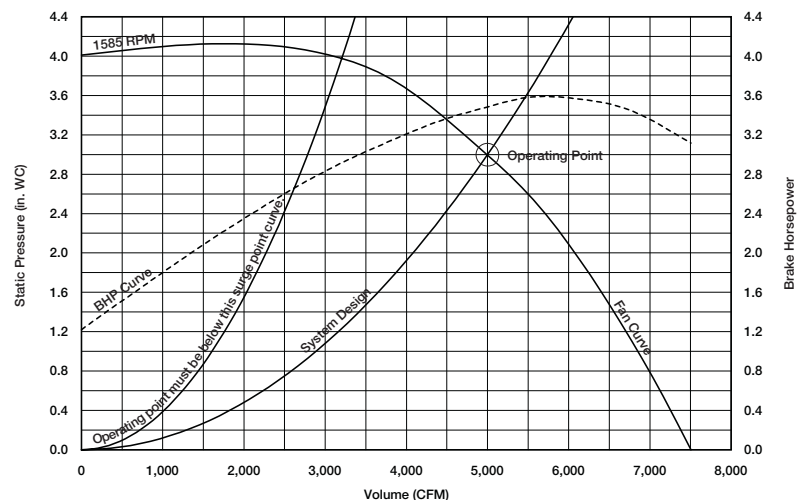

figure 6
**Figure 6** is a sample print-out from Greenheck's CAPS® program for a specific fan selection. This illustrates the fan curve, the BHP curve, the system design curve, plus a fan surge curve. Fan selection close to, or to the left of the surge curve, is not recommended. Referring to this surge curve aids the designer in selecting fans that are stable and will not go into surge with a minor change to the system. We have learned that a fan curve is the series of points at which a given fan model and size can operate at a constant RPM. The system resistance curve is the series of points at which the system can operate. The operating point is where these two curves intersect. Any changes to the fan RPM will cause the point of operation to move along the system curve and changes to the system resistance will cause the point of operation to move up or down the fan curve.